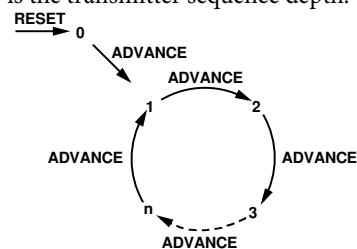

Figure 28. State Machine Position Loop
Figure 28 shows how the state machine pointer moves through a loop. In this diagram,  $n$  is the total number of states inside the loop. Because the sequencer depth bit field is 0 indexed,  $n$  is equal to one more than the value of the bits in the sequencer depth.
- Bit 0 to Bit 3: **MULT\_STATES**. Sets the number of states in the loop (see Figure 28).
Register 0x017 contains Bit 0 to Bit 6, **TX\_STATES**, which sets the number of states in the loop (see Figure 28).